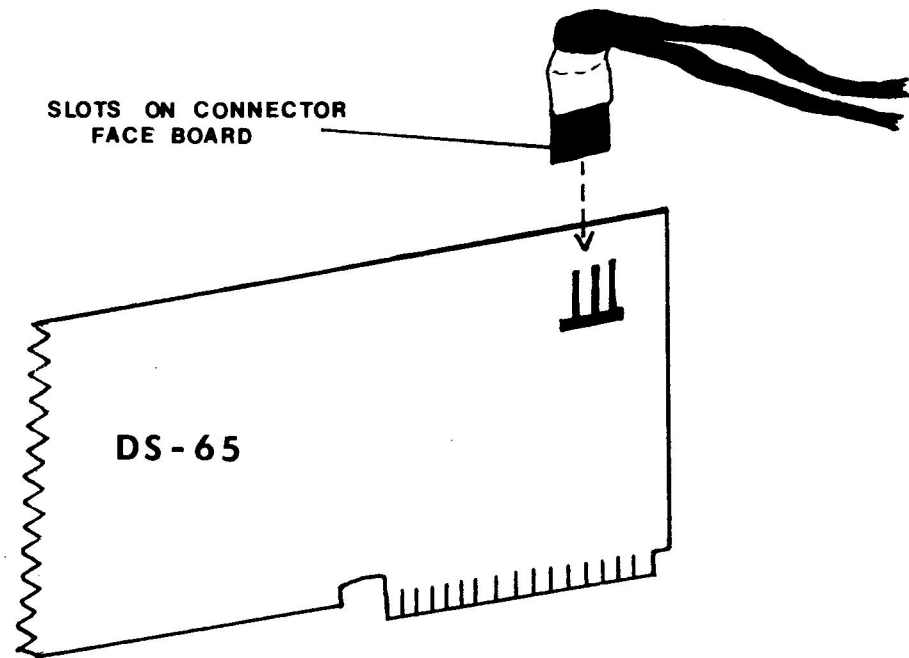

FIGURE 3.
- 3 - Video plug on DS-65 on backwards. See fig. 3.